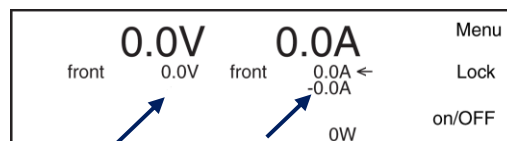

Figure 7.18: The second line shows the set value for voltage and for source current and sink current (with a minus sign).
- Check if the unit is in local operation: the text before the set values on the 2nd line must be 'front'. See Figure 7.18.
- Under the values for the actual output voltage and current, the display always shows the settings for the CV-control and for the CC-control. See Figure 7.18.